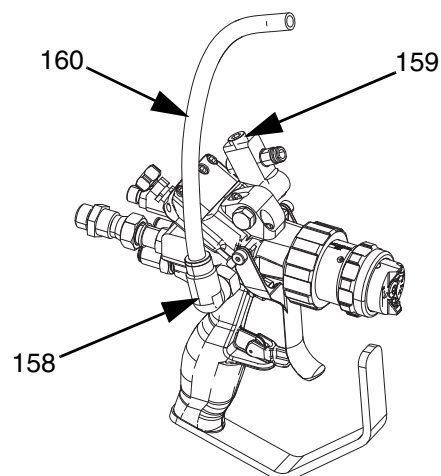

FIG. 3
3. Refer to **Figure 3**. Use a 3/16 in. hex wrench to install the plug (159) included with the cutter assembly where Fitting B was removed.